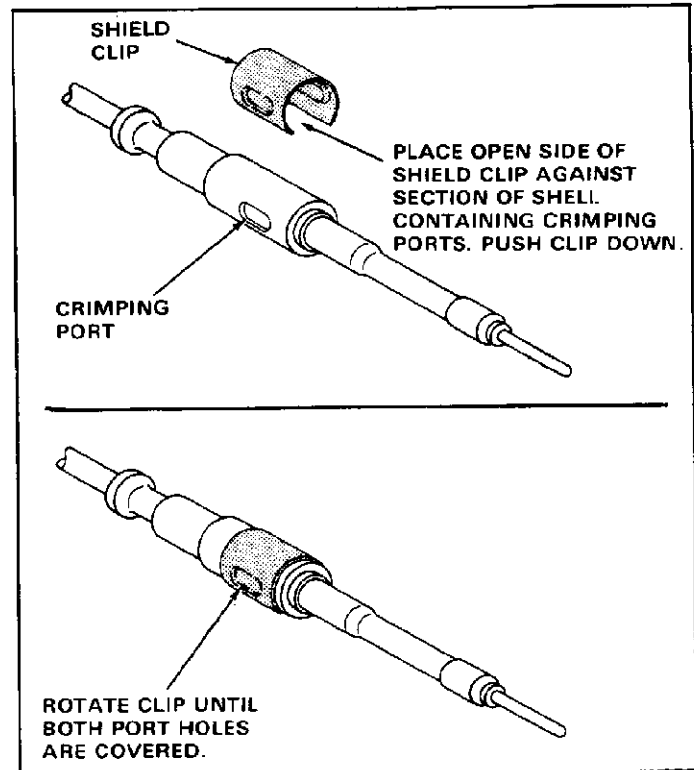

Fig. 7
5. ATTACHING SHIELD CLIP (Figure 7)